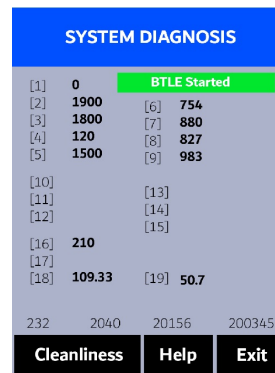

Figure 7.
Press **Diagnosis** (←) to launch the **SYSTEM DIAGNOSIS** screen where raw measurement data are displayed (Figure 7). The information has no use for normal operation, but instead is used for device troubleshooting. Provide an image of both the **DEVICE INFORMATION** screen and the **SYSTEM DIAGNOSIS** screen when you contact Pyxis ([service@pyxis-lab.com](mailto:service@pyxis-lab.com)) for troubleshooting your device or call +1 (866) 203-8397.
4. Allow 5–10 seconds for the message in the top-right corner of the display change from **Starting BTLE...** to **BTLE Started** (Figure 7).